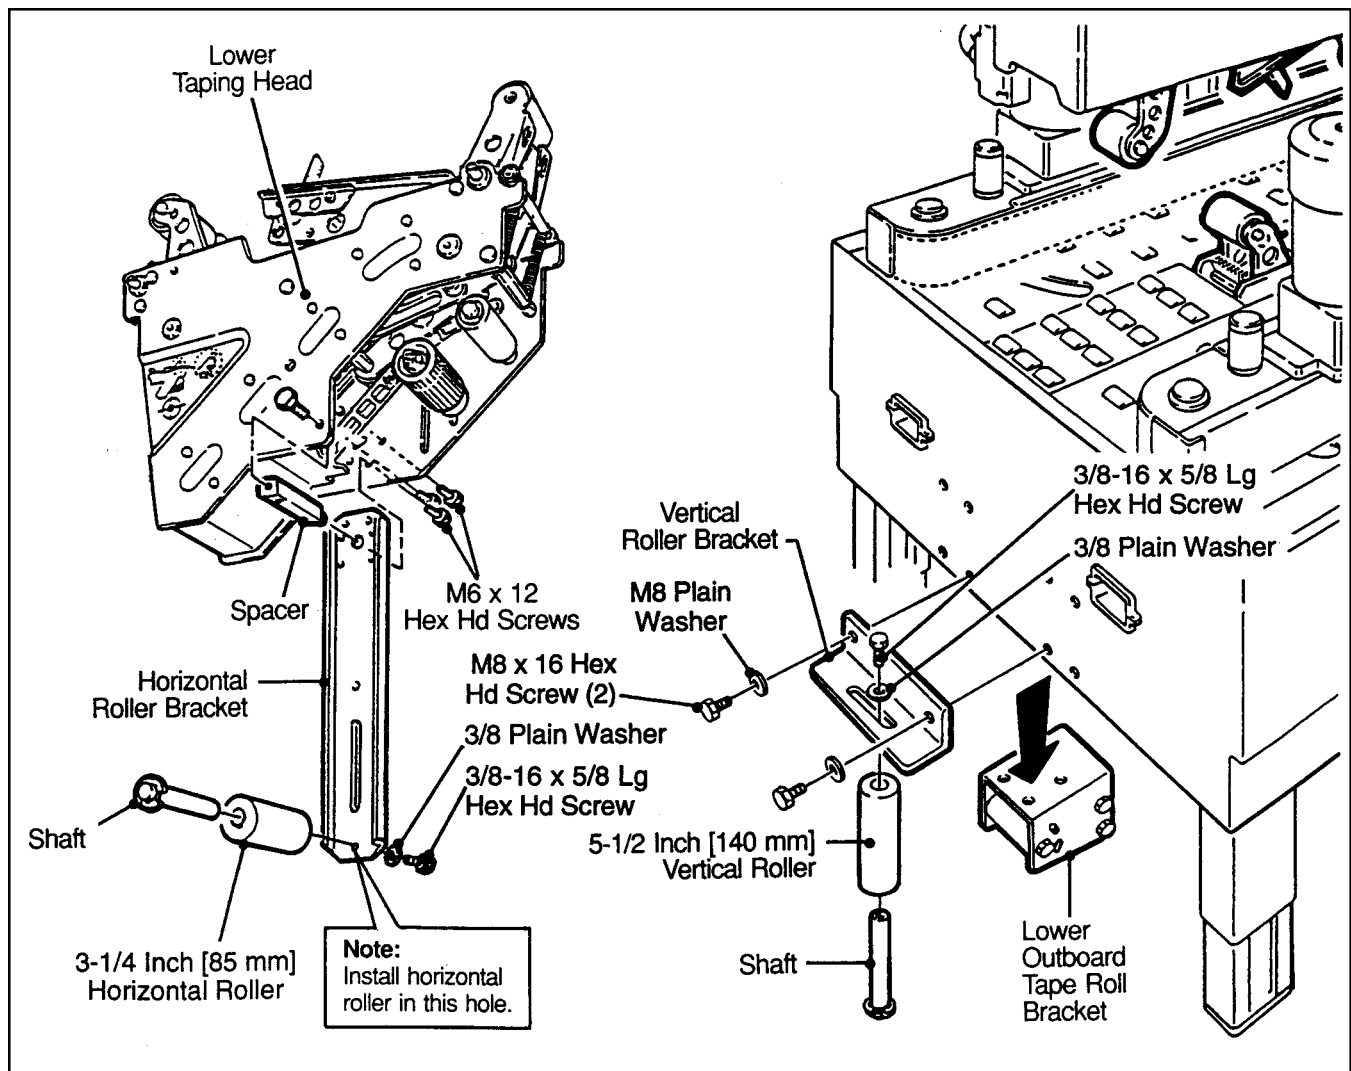

Figure 2-3 – 800af Lower Taping Head
800af LOWER TAPING HEAD (Refer to Figure 2-3)
- Note** – If spacer (shown in Figure 2-3) was used with existing tape drum or roller bracket assembly, use it with new horizontal roller bracket as shown.
6. Attach vertical roller (angle) bracket to case sealer frame with (2) each, M8 plain washers and M8 x 16 hex hd screws as shown.